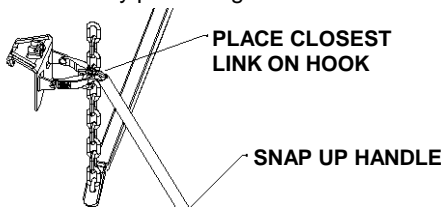

Fig. 3
6. Raise trailer tongue and rear of car with jack. Lower yoke of snap up bracket until it is parallel with the ground, and slip the closest link over the hook (If there are less than 5 links between hook and u-bolt adjust ballmount angle rearward, and repeat procedure - see Fig. 3 & 4 below). With the snap up bracket handle over the yoke, raise until yoke has passed "over-center". Slide the safety pin through the small hole to lock the yoke in place. Repeat for other side.